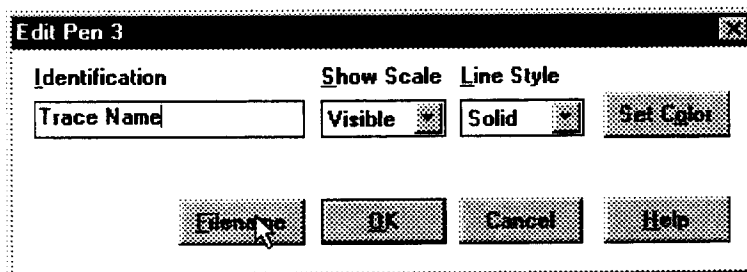

Figure 8-22 Edit Pen Dialog Box
To add another trace (point) to the graph, double click the mouse over the graph area (C) or select "Graph - Setup" from the menu. The Edit Graph dialog box will appear. Press the Add button. This will bring up the Edit Pen dialog box shown below (Figure 8-22).
The Edit Pen dialog box (Figure 8-22 above) can be used to add a name to the trace with the **I**dentification box, simply type in the name you want. Use the **S**how Scale drop down list to select whether the Y Axis scale is visible or not (off). If all traces have the same axis it is not necessary to show them all.